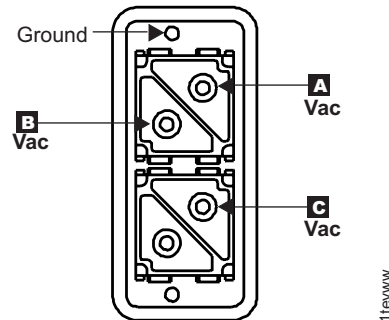

Figure 78. Mainline power cable connector
1. Prepare the multimeter to measure 1.0 V ac or less. Measure the voltage on the female ground pin on each mainline power cable and building ground. Refer to Figure 78 on page 93.